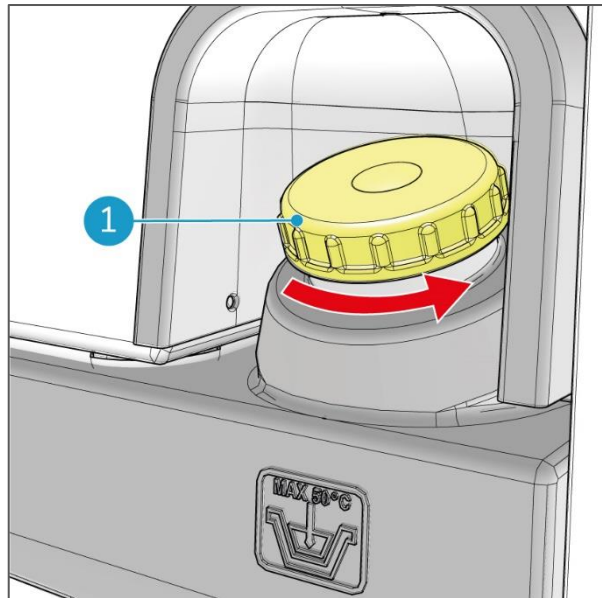

Figure 19
1. Remove the yellow filler cap (Figure 19, pos 1).